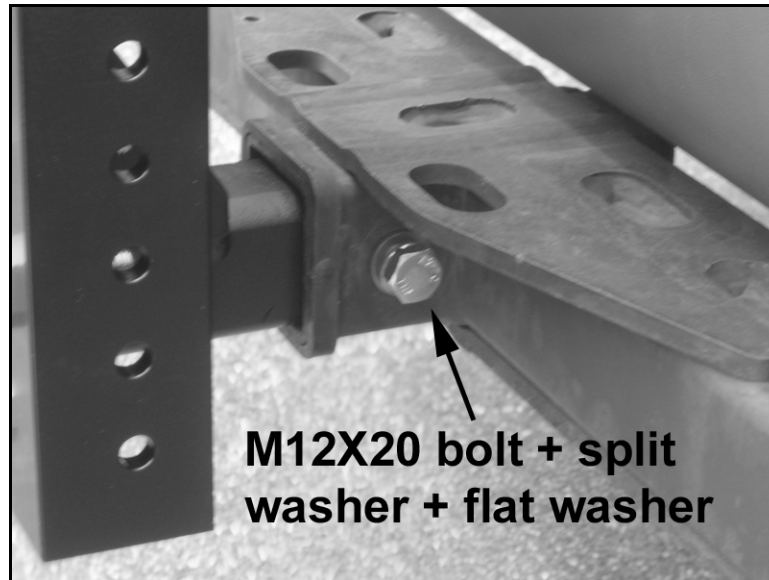

Figure 4: Safety bolt assembly.
Step 2: Take the M12X40 bolt and put the flat washer on the bolt and then the split washer. Insert the bolt into the holes on the side of the hitch receiver and tighten securely (Figure 4). This is a safety precaution and will prevent the hitch mount from loosening and falling out of the receiver. Do the same on the other side of the receiver.